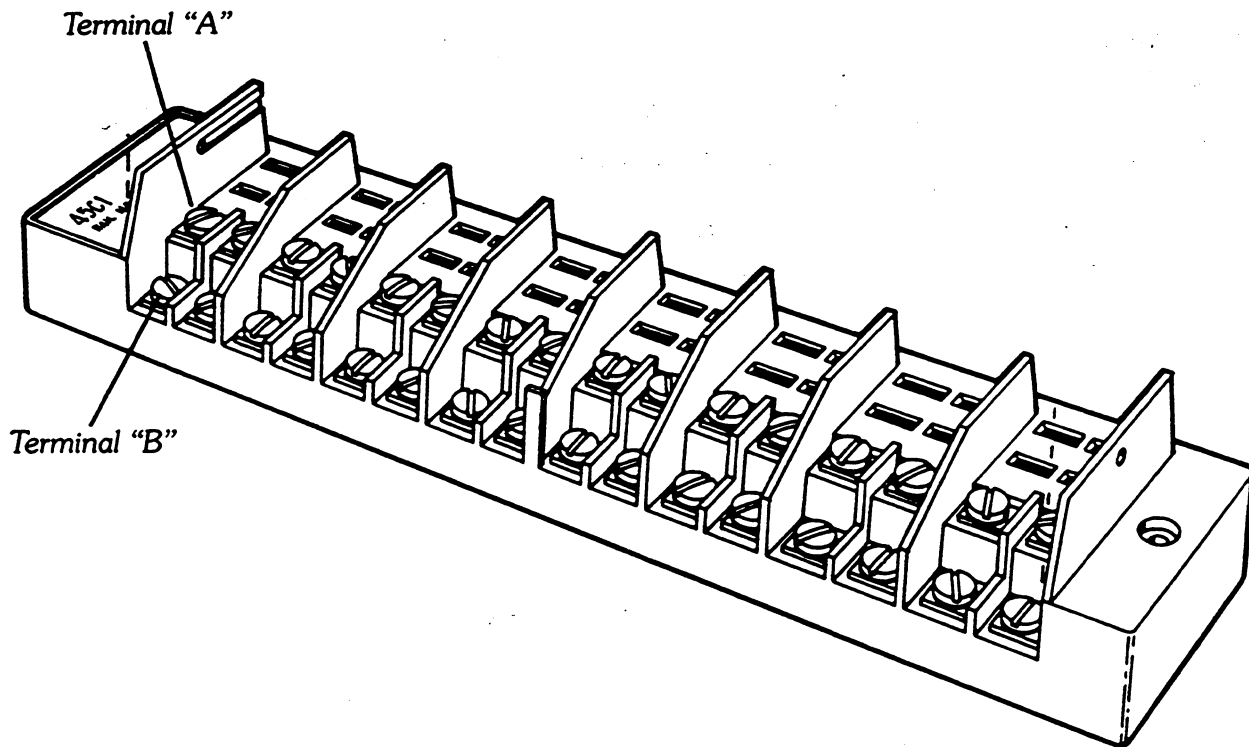

Figure 9
Field wiring connects directly to the Rail Terminal Strip. No other terminal strip is required. The terminals are arranged in two (2) tiers. (Refer to Figure 9). Each terminal is capable of accommodating two number 12 AWG wires. The smallest recommended wire size is a number 22 AWG. There are two (2) terminals per I/O channel. (A, B). Terminal "A" is the upper terminal and terminal "B" is the lower terminal. The type of I/O used will determine which terminal is common or power. Refer to write up on I/O modules.